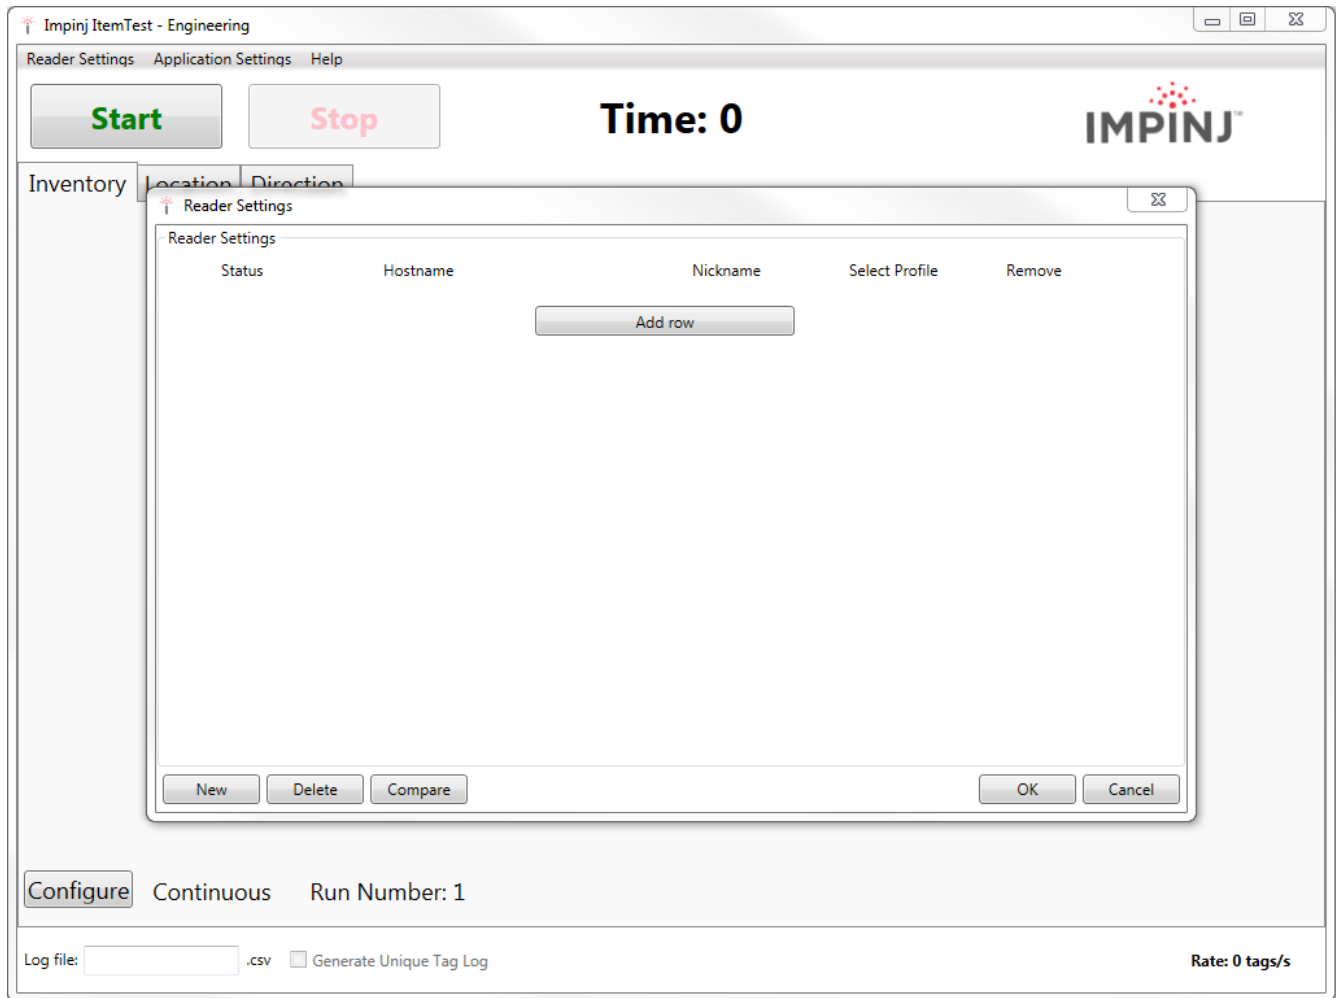

Figure 6.2 ItemTest - Reader Settings Screen
1. Select the **Reader Settings** menu, which opens the **Reader Settings** window, as shown in Figure 6.2.